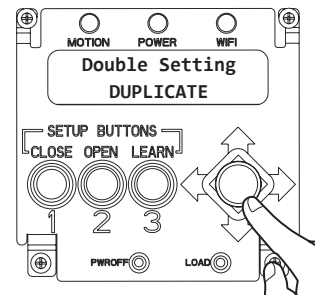

Figure 16
- **Double Setting** = DUPLICATE or INDEPENDENT (Figure 16)